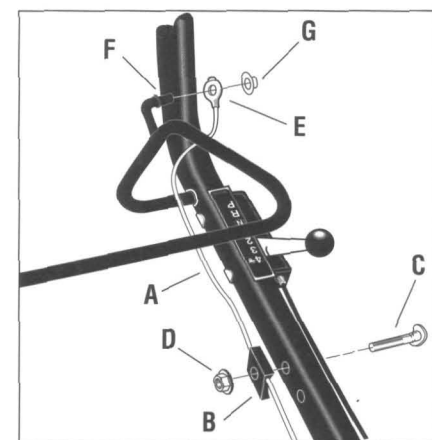

Figure 2-5: Install Wheel Drive Bail Cable.
**A.** The wheel drive bail cable (A, Figure 2-5) is connected to the bracket on the rear, left side of the mainframe. Run the cable up the **inside** edge of the left side handlebar and align the hole in the cable clamp (B) with the **upper** of the two holes that are located a few inches below the GEAR SHIFT LEVER.
**B.** Insert a 1/4"-20 x 1-5/8" curved head screw (C, Figure 2-5) through the handlebar and into the clamp. Add a 1/4"-20 flanged locknut (D) and tighten securely using a 7/16" wrench.
**C.** Slip the cable eyelet (E, Figure 2-5) over the stud (F) on the wheel drive bail. Place a wood block behind the stud and use a hammer to tap the cap push nut (G) onto the stud (the push nut can also be pressed on with a pair of large-sized pump or parallel jaw pliers).